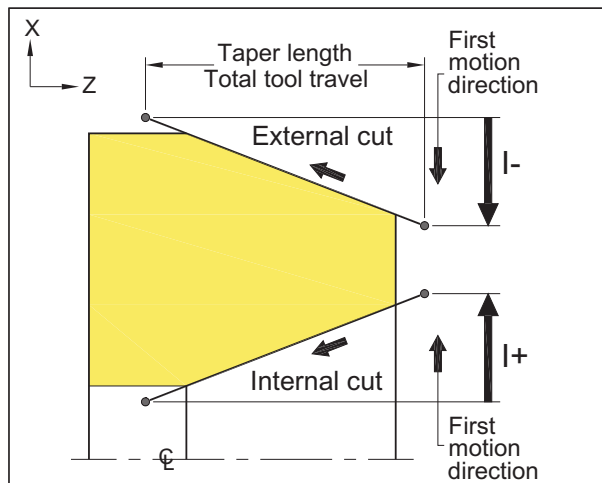

Figure 35-5
Main difference is the addition of an I(R) parameter to the cycle call, indicating the *taper amount* and its *direction per side*. This value is called a *signed radius value*. It is an I value because of its association with the X-axis. For straight cutting, the I value will always be zero and does not have to be written in the program. Its only significance is for taper cutting, in which case it has a non-zero value - Figure 35-5.